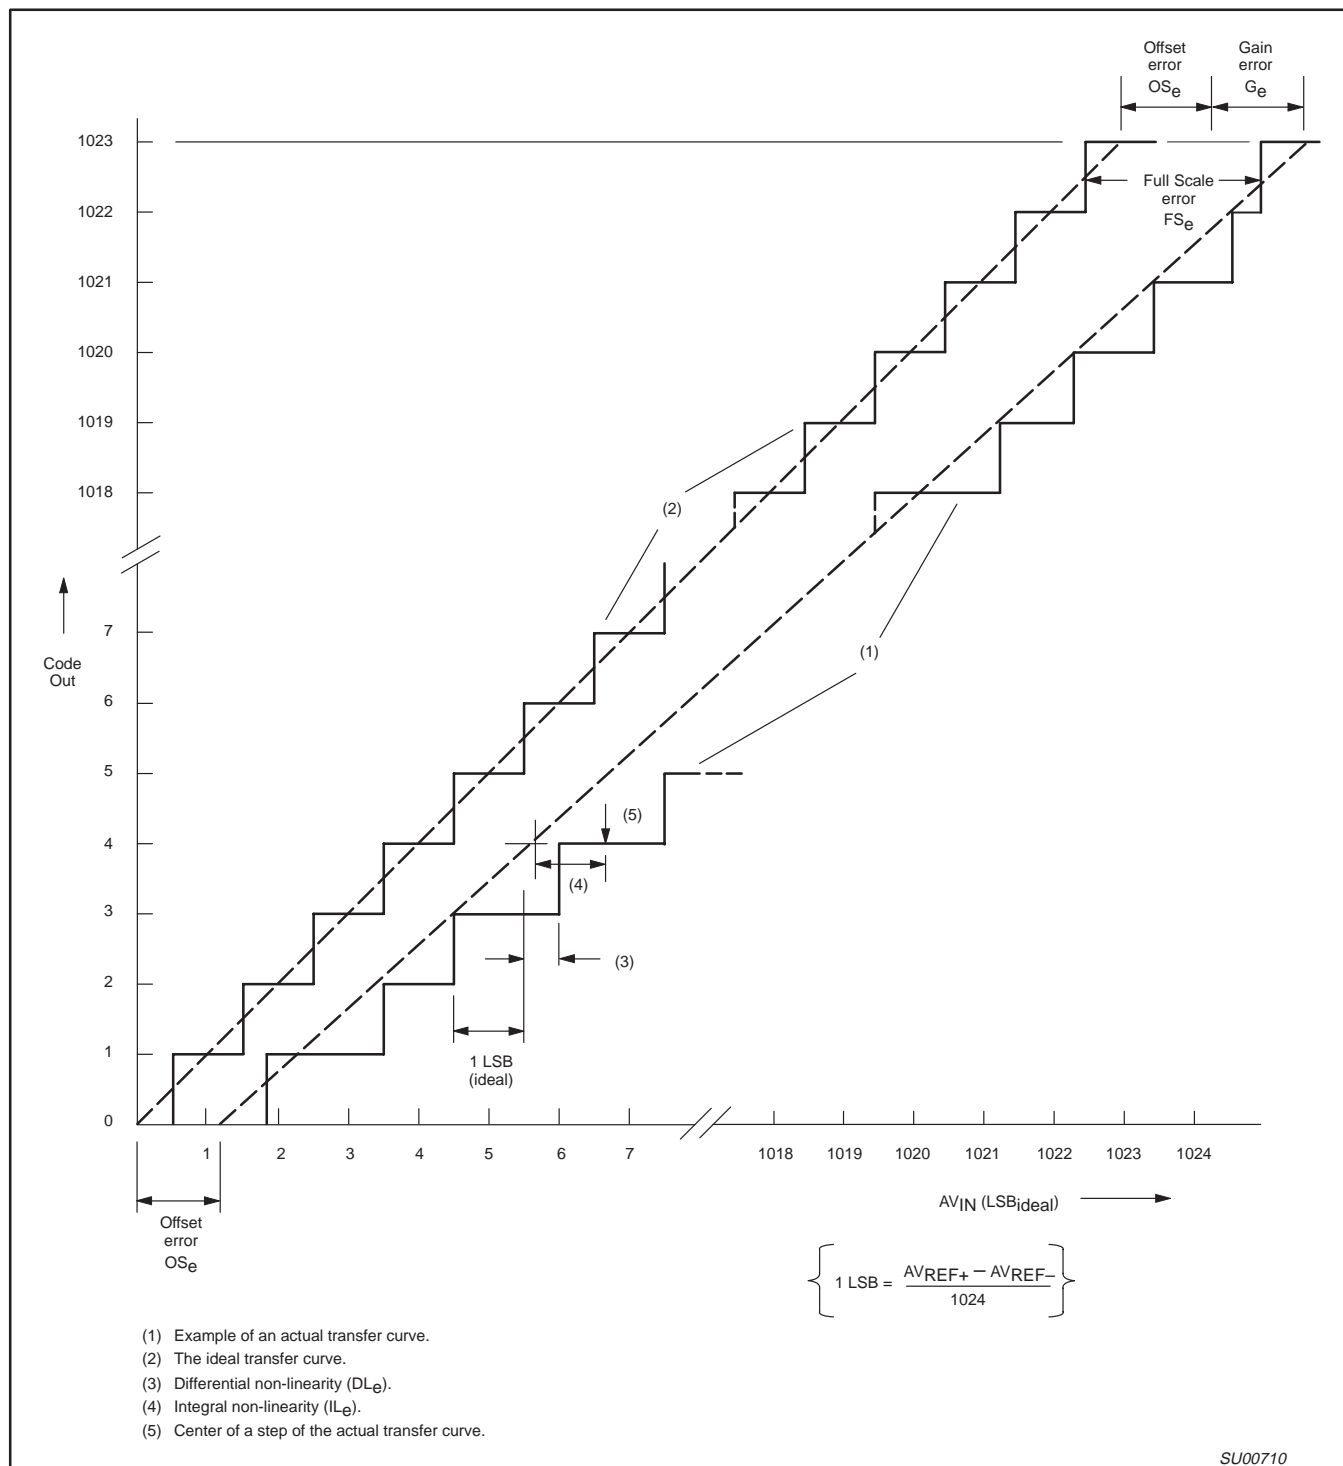

Figure 24. ADC Conversion Characteristic
- The differential non-linearity (DLe) is the difference between the actual step width and the ideal step width. (See Figure 24).
- The integral non-linearity (ILe) is the peak difference between the center of the steps of the actual and the ideal transfer curve after appropriate adjustment of gain and offset error. (See Figure 24).
- The offset error (OSe) is the absolute difference between the straight line which fits the actual transfer curve (after removing gain error), and a straight line which fits the ideal transfer curve. (See Figure 24).